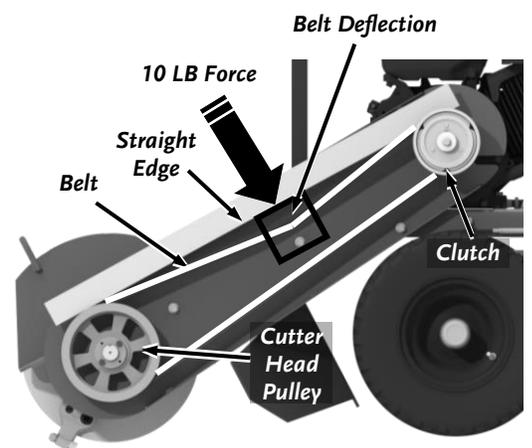

Figure 19
9. Place a Straight Edge along the Belt (over the Clutch and Cutter Head Pulley). Apply a 10lb Force in the center span one Belt at a time. Measure the Belt Deflection from the bottom of the Straight Edge to the top of the Belt with a tape measure (**Figure 19**).